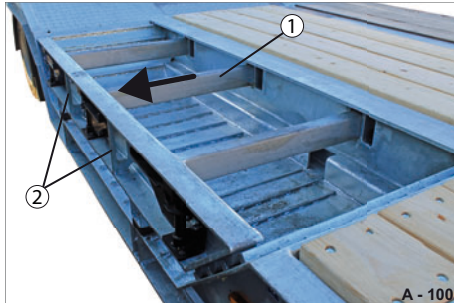

Fig. 111 Wheel cavity frame, pushed out
► Grab the handles (Fig. 111/2) and pull out wheel cavity frame (Fig. 111/1) completely.